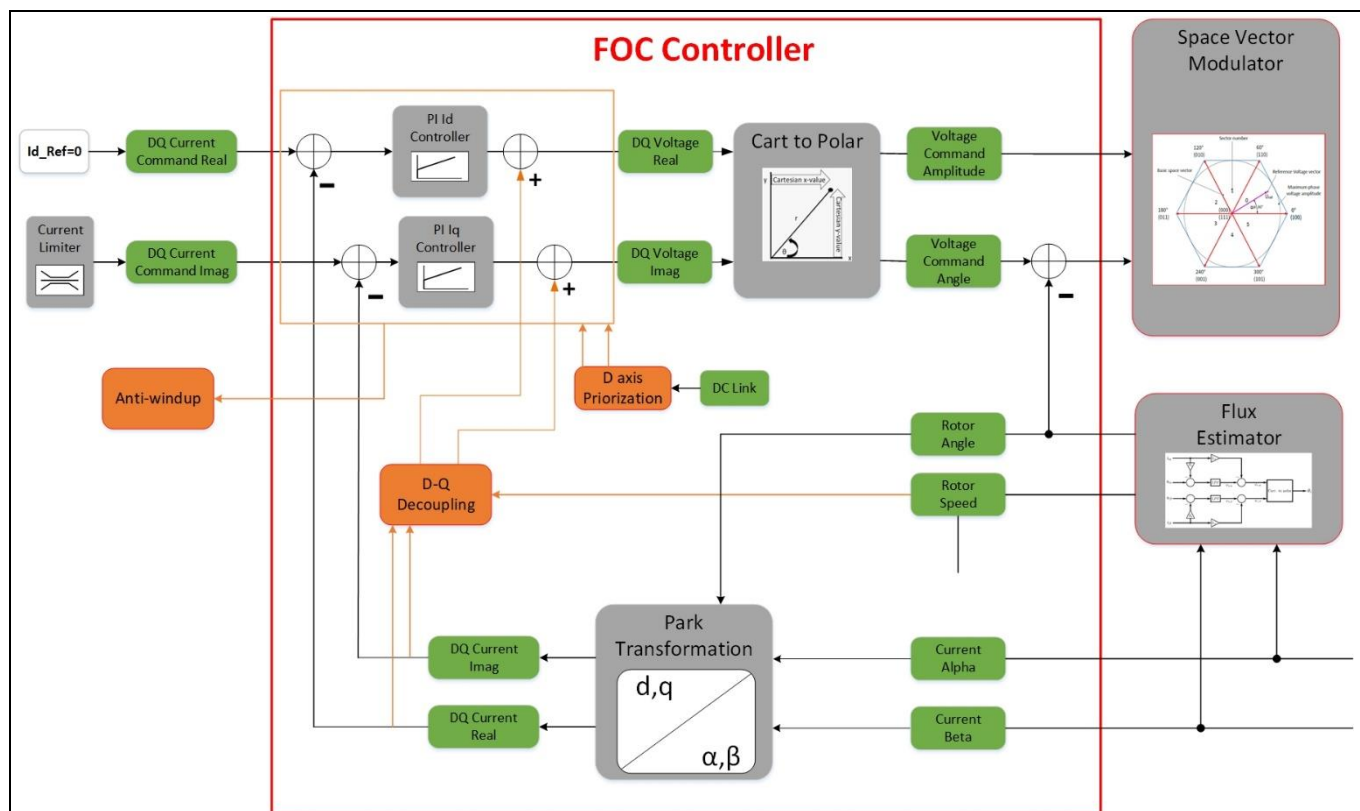

Figure 15 FOC Controller
4. The current loop in the FOC controller block (Figure 15) calculates the inverter voltages to drive the motor currents needed to generate the desired torque. Two separate current PI controllers (for I_d and I_q) have as inputs the difference of the **I_d and I_q reference currents** (DQ Current Commands from the speed controller) and the **I_d and I_q motor currents** (DQ Currents calculated with Clarke and Park transformations from the phase currents measured on the shunt). The FOC uses the Clarke and Park transformations to convert the motor phase currents into two quasi DC components: An I_d component that increases or weakens the rotor field, and an I_q component that generates motor torque.
5. The outputs of the current PI controllers are the output voltages V_d and V_q , used as input for the Cartesian to polar function, which convert them as voltage reference amplitude and reference angle for the space vector modulator (SVM) in Figure 15.